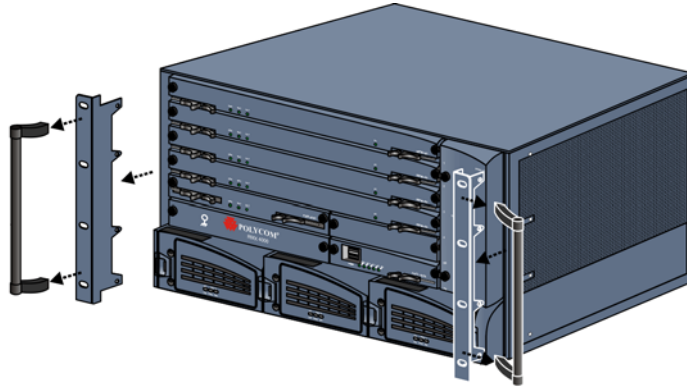

Figure 1-4 Removing and attaching 19" and 23" brackets
- 1 Mounting the RMX 4000 on a 23" rack requires that first the handles and then the 19" brackets be removed from the MCU. This is shown in Figure 1-4.